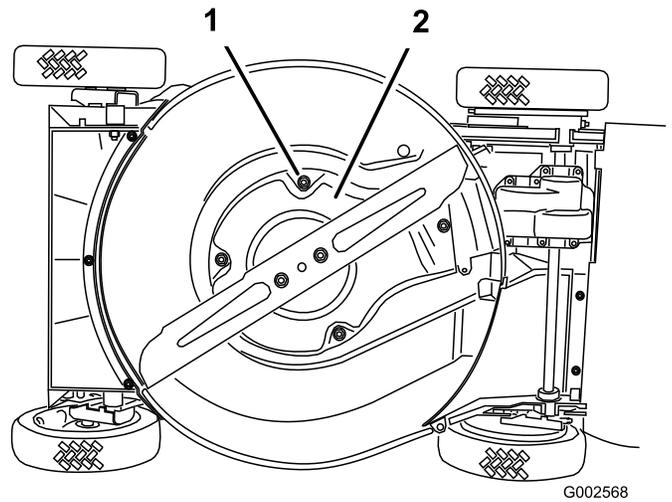

Figure 40
6. Loosen the 4 screws that hold the shield in place (Figure 40)..